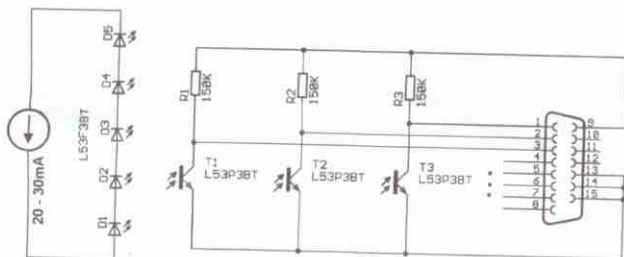
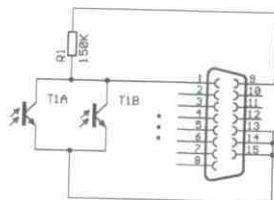

Figure 2a: Optical sensors.
Figure 2b: Two phototransistors connected in parallel.
**Optical sensors** work as photoelectric barriers. For recommended wiring see figure 2a. Light source used must ensure sufficient excitation of receiver phototransistors, light current value must be at least  $45\mu\text{A}$ . For a better function, two receiving elements can be connected in parallel for each track – see fig. 2b.